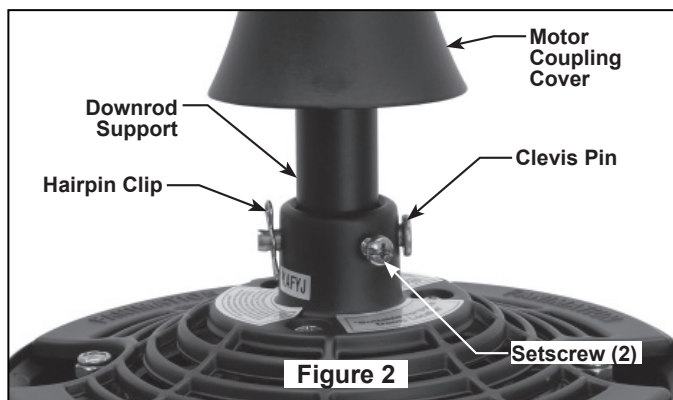

Figure 2
5. Loosen the two setscrews in the Downrod Support. Align the Clevis Pin holes in the Downrod with the holes in the Downrod Support. Install the Clevis Pin and secure with the Hairpin Clip. (Figure 2) Be sure to push the straight leg of the hairpin clip through the hole near the end of the clevis pin until the curved portion of the hairpin clip snaps around the clevis pin. The hairpin clip must be properly installed to prevent the clevis pin from working loose. Pull on the Downrod to make sure the clevis pin is properly installed. (Figure 2)
6. Route wires through opening in Motor Coupling Cover. Position Motor Coupling Cover on fan shown with open side facing down. (Figure 2)
9. While pulling up on the hanger ball, securely tighten the two 3/16-24 x 3/8" setscrews in the downrod support. (Figure 2)
1. Securely attach the hanger bracket to the outlet box using the outlet box screws and washers supplied with the outlet box (Figure 2).
**NOTE:** Outlet box screws pass through slotted holes of the hanger bracket (Figure 2).
3. Carefully lift the fan and seat the downrod/hanger ball assembly on the hanger bracket that was just attached to the outlet box (Figure 3). Be sure the groove in the ball is lined up with tab on the hanger bracket (Figure 2).
2. Check the operation of the fan by gently pulling on the pull chain switch. (Figure 2)
4. Attach the assembled blades to the bottom of the rubber flywheel using the flywheel screws provided. (Figure 2)
5. Make sure the screws securing the blade holders to the flywheel are tight and that the blade holders are properly seated on the flywheel. (Figure 2)
3. Attach the switch housing to the fitter/light kit by feeding the wires (black & white) through the hole of the switch housing, place lockwasher over the fitter/light kit leads & nipple and fasten the fitter/light kit with the nut provided onto the nipple. Be sure it is tight enough to prevent fitter/light kit from vibrating loose (Figure 2).
4. Locate two single wires in switch housing. White and blue wires labeled "FOR LIGHT" (Figure 2).
5. Connect them to the fitter/light kit wires (Figure 2);
6. Carefully reconnect the connector and push all wires back into switch housing of fan. Then replace cover with original screws (Figures 2 & 3).